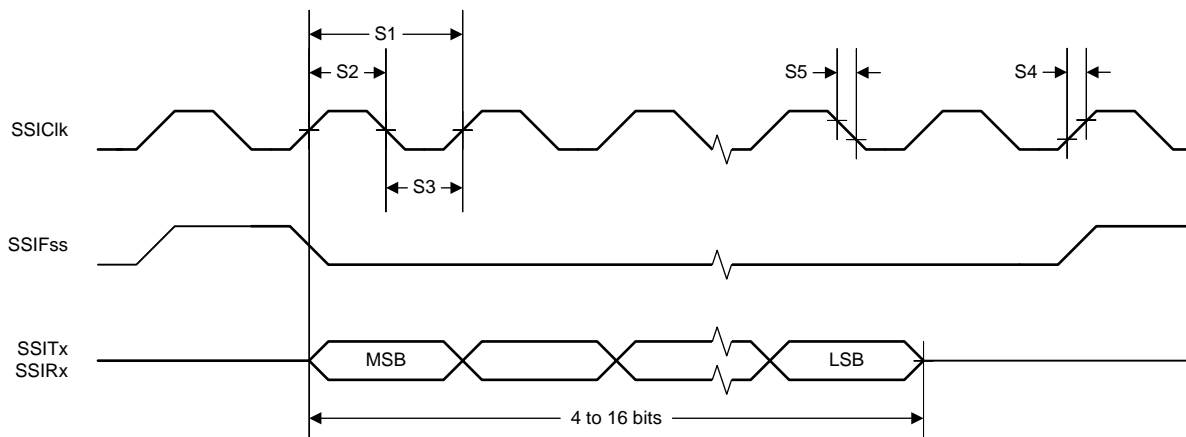
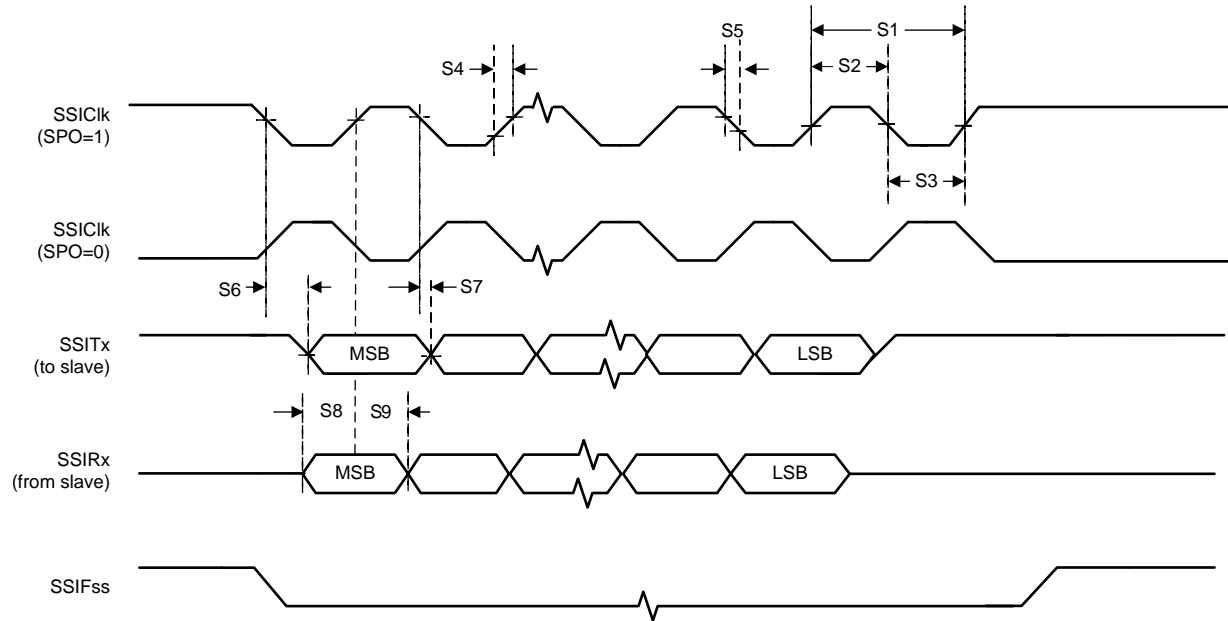
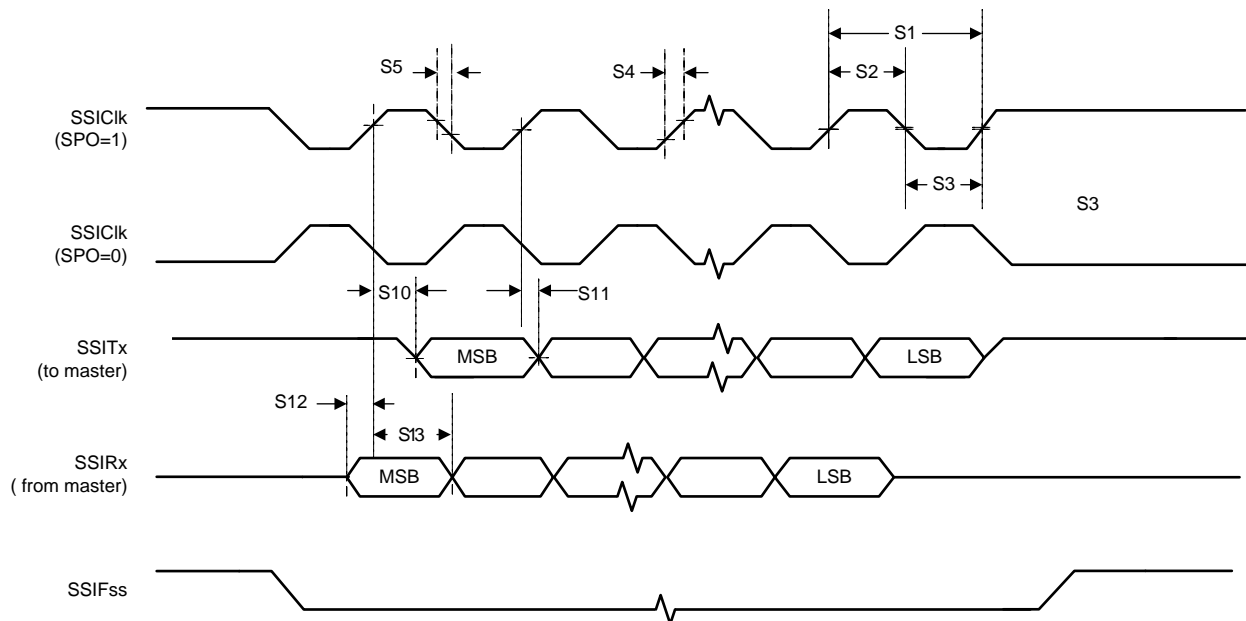

图 5-28. SSI Timing for TI Frame Format (FRF = 01), Single Transfer Timing Measurement
图 5-29. Master Mode SSI Timing for SPI Frame Format (FRF = 00), With SPH = 1
图 5-30. Slave Mode SSI Timing for SPI Frame Format (FRF = 00), With SPH = 1
over operating free-air temperature (unless otherwise noted) (see 图 5-28, 图 5-29, and 图 5-30)
(1) Parameters S15 to S23 correspond to parameters S1 to S9 in 图 5-28 and 图 5-29.
(2) In master mode, the system clock must be at least twice as fast as the SSIClk.
(3) The delays shown are using 12-mA drive strength.